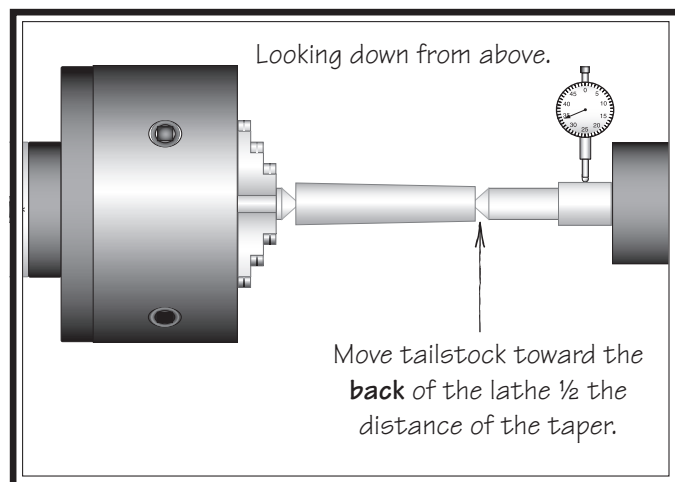

Figure 48. Adjust tailstock away from the operator.
- If the test stock is *thinner* at the tailstock end, move the tailstock toward the *back* of the lathe $\frac{1}{2}$ the distance of the amount of taper (see **Figure 48**).